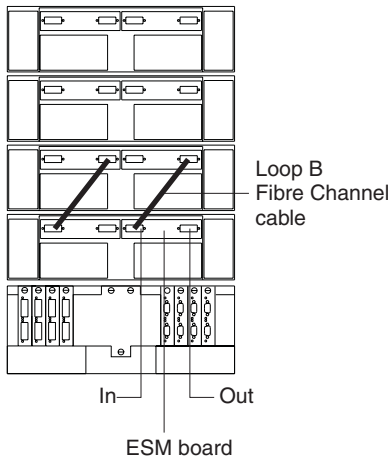

Figure 11. Connecting two storage expansion enclosures into redundant drive loop B
2. Connect the same first two storage expansion enclosures to drive loop B, as shown in Figure 11 on page 12.